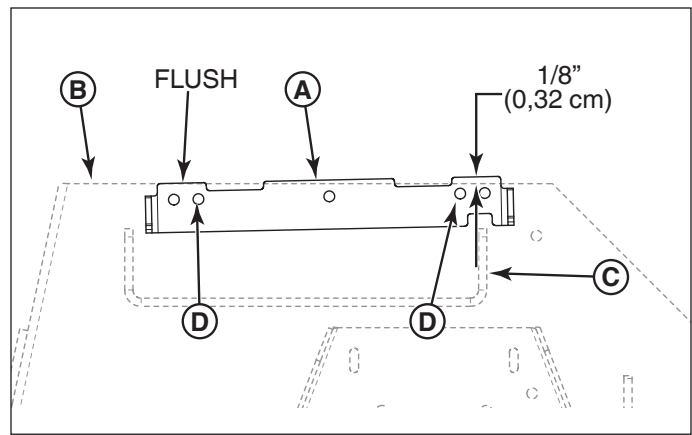

Figure 3. Installing the Bagger Mount Bracket (48" Evolution Models)
1. See Figure 3. Align the bagger mount bracket (A, Figure 3) so that the front end is flush with the front edge of the deck (B) and the back end hangs an 1/8" (.32 cm) over the back edge of the deck. Position the bagger mount bracket so that the leg of the discharge chute bracket (C) fits into the notch in the bagger mount bracket.
For Evolution Mowers (48" Mower Decks): Using the bracket as a guide, drill two (2) .328 holes (D, Figure 3) through the mower deck.